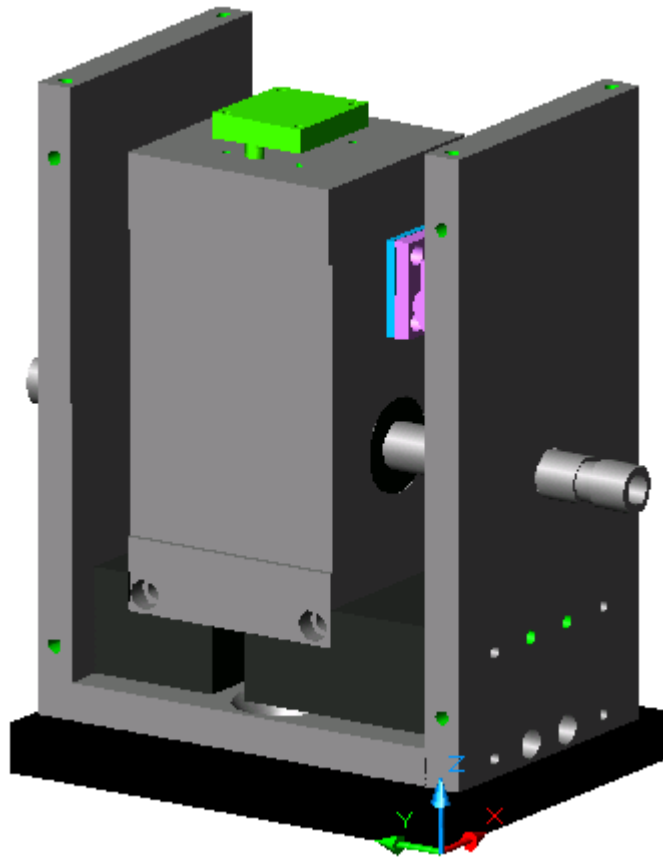

Figure 32. Upper RF shield and second thermistor.
**STEP 12:** Get the Upper RF Shield (drawing #13). Attach it to the lower RF shield with four 3/8" screws (see figure 32).